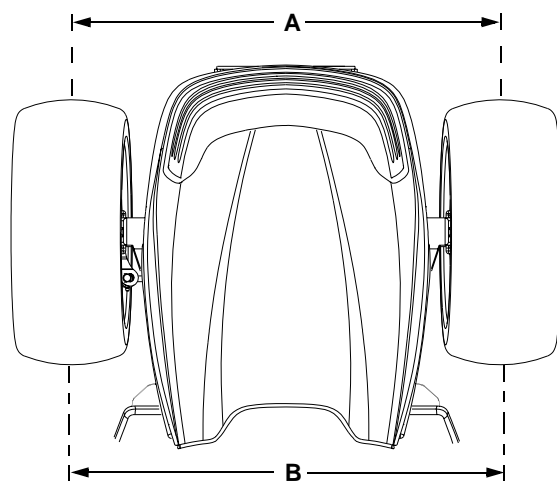

Figure 28
- Measure and record the distance 'A' between the two marks. See Figure 28.
- Roll the tractor forward or rearward until the marks are at the horizontal center line at the rear of the wheels. Measure and record the distance 'B' between the marks. See Figure 28.